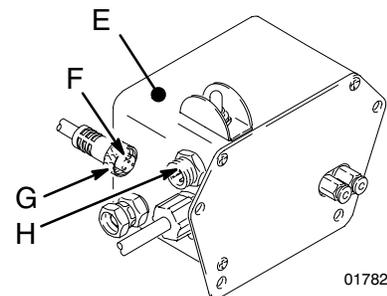
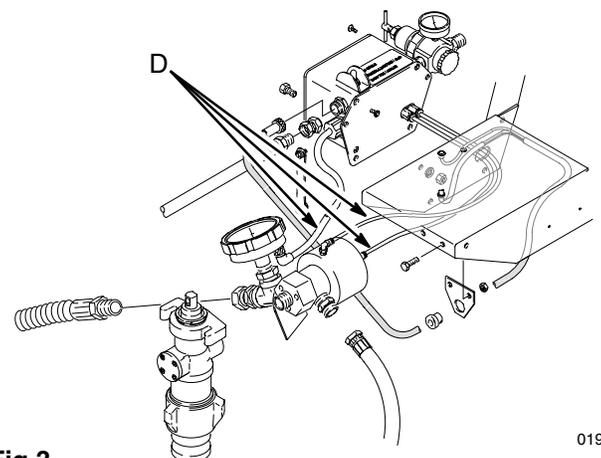

Fig 2
Fig 3
2. Start the engine. Jog the Easy Spray Control (E) between PRIME and OFF until the connecting link stops near the bottom of the stroke and is fully exposed. See Fig 2. Shut off the engine.
3. Unscrew the collar (C) and disconnect the power supply cord from the control (E). See Fig 2.
5. Use a screwdriver to gently pry the retaining ring up (B) from the back of the connecting link (C). Then push the pin in so it falls out the back.
6. Remove the two mounting screws (D) while supporting the weight of the pump with your free hand.
7. Disconnect the cables (D) from the pressure drain valve. See Fig 3.
6. Connect all cables to the pressure drain valve. See Fig 3. Plug in the power cord so the notch (F) in the collar (G) and the tab (H) in the socket align. Screw on the collar. See Fig 2.
- 3 Cutaway view shows how pin (228) goes through connecting rod